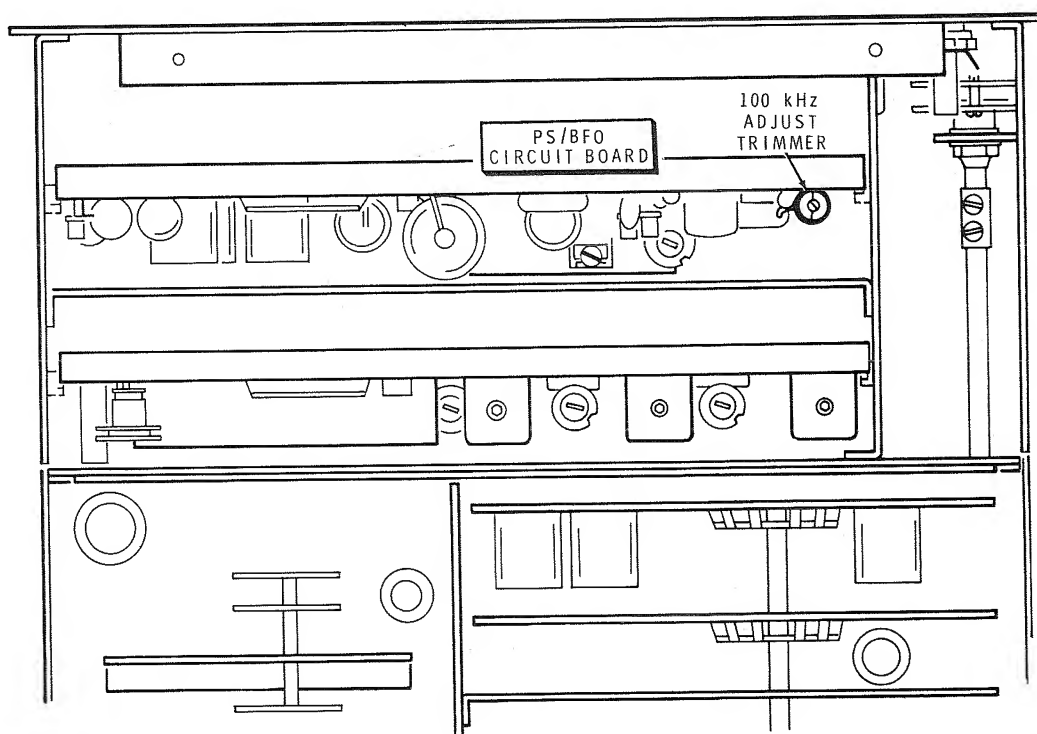

Figure 11
- ( ) Turn the FUNCTION switch to 100 kHz. The tone from the calibrator should be heard. Refer to Figure 11 and adjust 100 kHz ADJ trimmer capacitor C606 on the power supply/BFO circuit board so the calibrator tone goes lower and lower in frequency and disappears. The calibration oscillator is now in zero beat with WWV.
- ( ) Refer to Figure 11 and adjust 100 kHz ADJ trimmer capacitor C606 on the SB-303 power supply/BFO circuit board until you hear the calibrator tone in the other receiver go lower and lower in frequency and disappear. NOTE: When WWV is used, the period when no tone modulation is present allows easier identification of the zero beat.